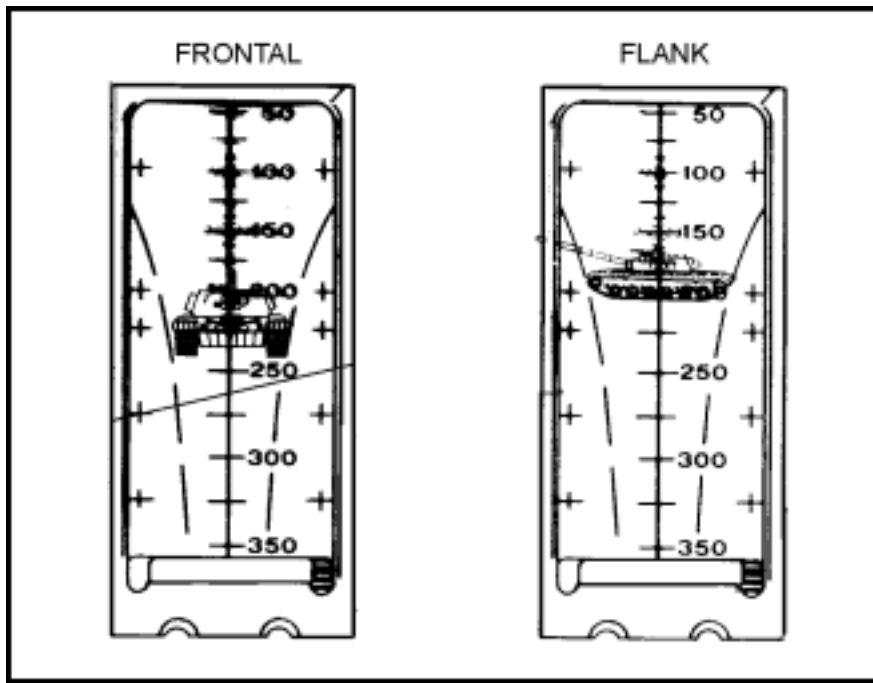
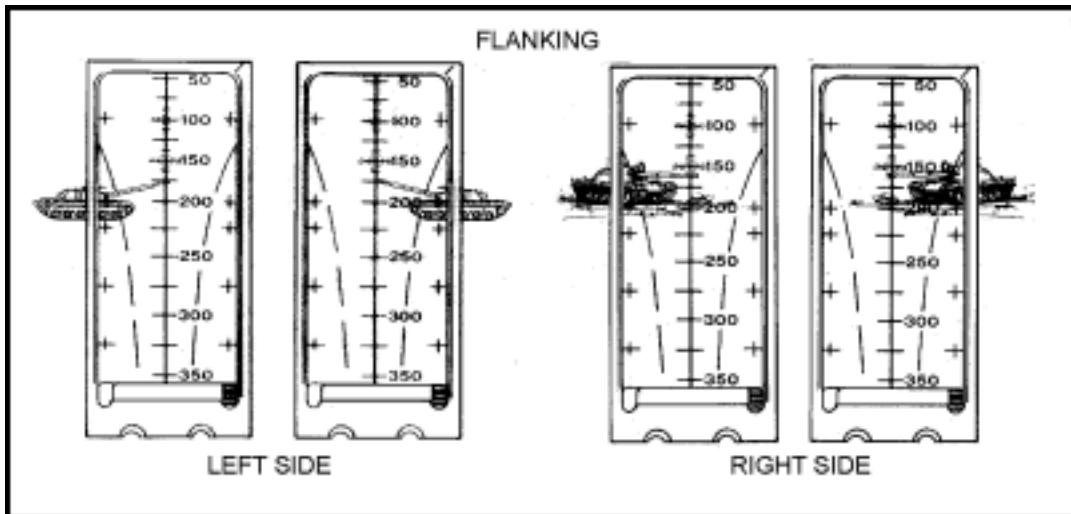
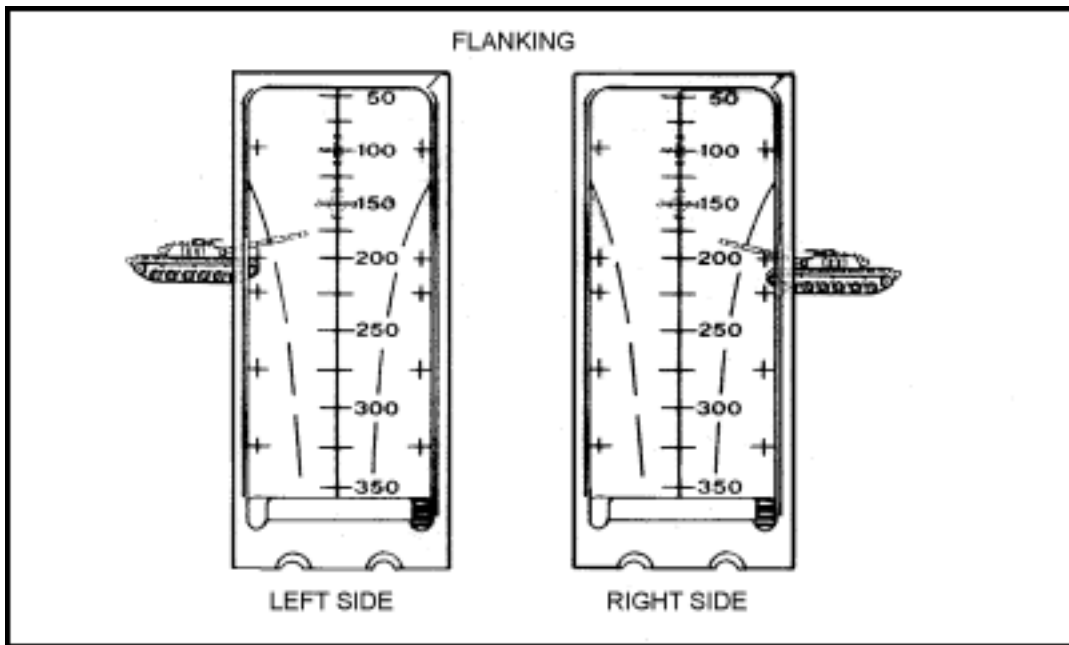

Figure 4-5. Sight picture, stationary targets, M72-series LAW.
Figure 4-6. Sight picture, slow-moving targets, M72-series LAW.
Figure 4-7. Sight picture, fast-moving targets, M72-series LAW.
(1) **M72-Series LAW.** *Stationary targets* include those moving directly toward or away from the firer. Place the correct vertical range line in the center of the target (Figure 4-5). *Slow-moving targets* include those with an estimated speed of 5 mph or slower, or those moving in an oblique direction. Place either the left or right lead cross mark on the vehicle's center of mass (Figure 4-6). *Fast-moving targets* include those with an estimated speed of more than 5 mph. Place either the left or right lead cross mark on the leading edge of the vehicle (Figure 4-7).